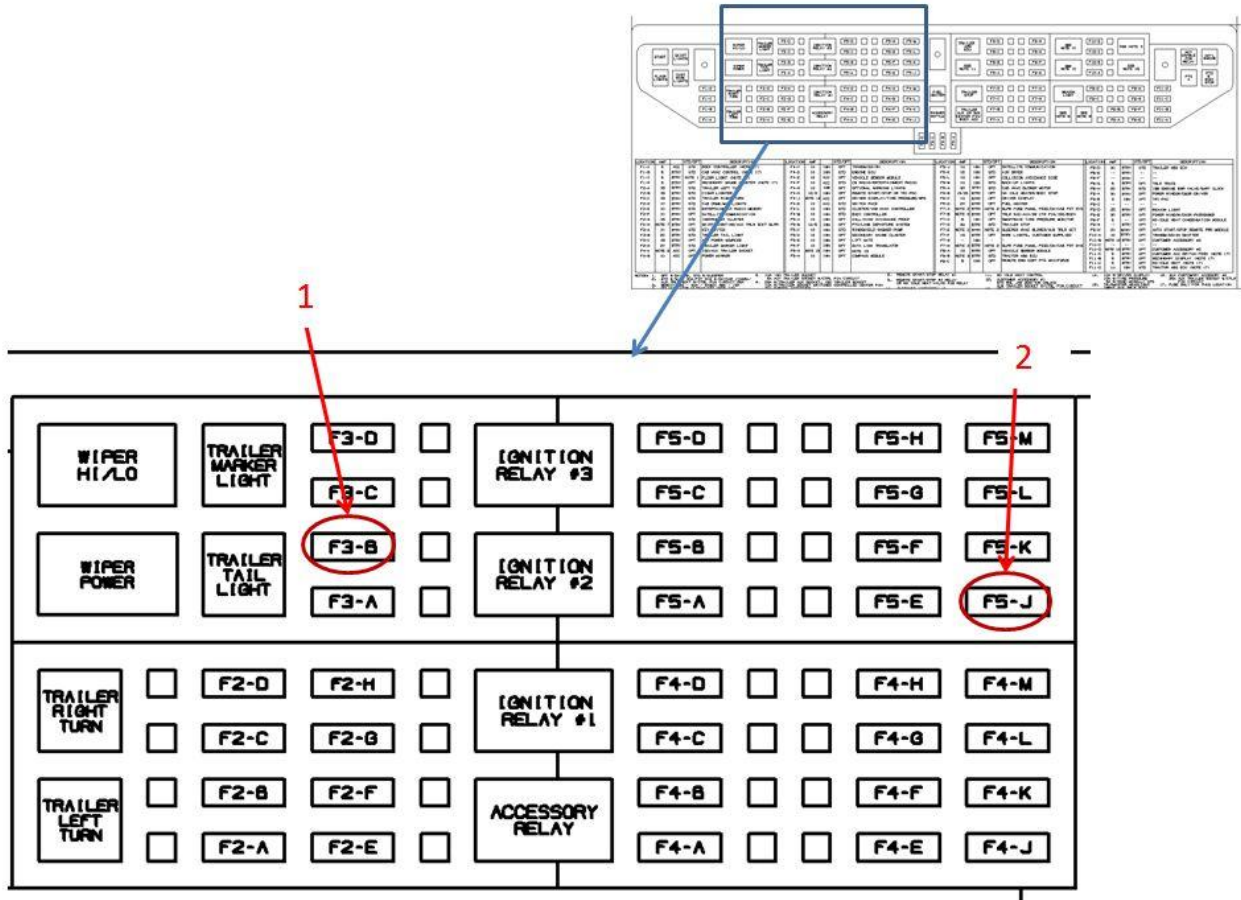
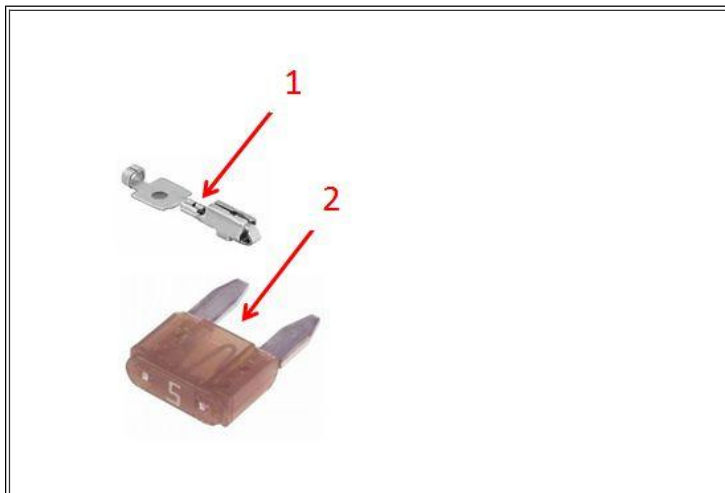

Figure 3: Power Distribution Center
Figure 4: Parts
3. Locate and cut the red wire labeled 14T, printed on the wire, which is under fuse F3-B (figure 3, item 1) at the power distribution center.
5. Crimp terminal (figure 4, item 1) to the jumper wire and insert the terminal into the empty cavity of fuse F5-J (figure 3, item 2).